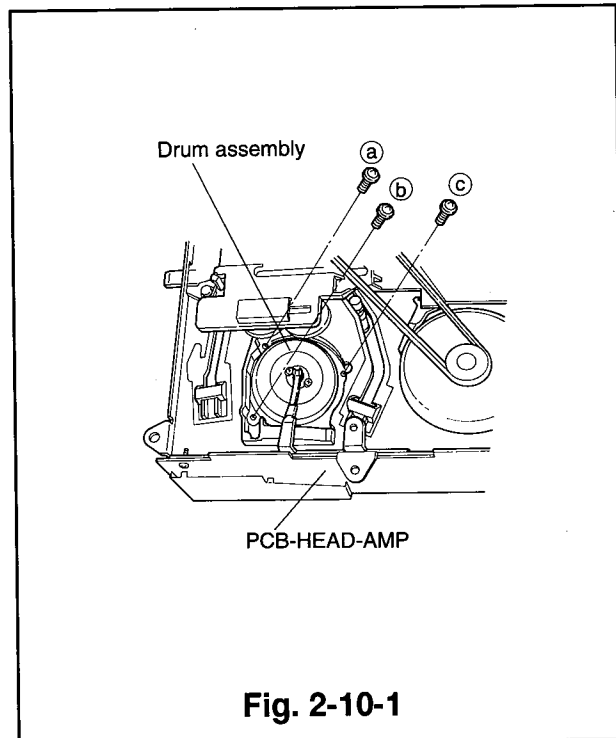

Fig. 2-10-1
- ① Remove the cassette housing. (Refer to Para. 2-1 for the removal method.)
- ② Remove the PCB-HEAD-AMP. (Refer to Para. 2-8 for the removal method.)
- ③ Unscrew the three screws (a), (b) and (c) on the reverse side of the deck and remove the drum assembly. (Refer to Fig. 2-10-1.)
- ④ Slowly raise the drum assembly upward, take care not to touch other parts around it. (Do not touch the tape running surface of the drum with your hand.)
- ① Carefully place the new drum assembly on the main plate of the deck, take care not to touch other parts.
- ② Holding the drum assembly, reverse the deck and secure the drum assembly with the three screws(Ⓐ, Ⓑ and Ⓒ). (Tighten the screws in the order Ⓐ→Ⓑ→Ⓒ and finally tighten again Ⓐ.)(Refer to Fig. 2-10-1.)
- ③ Install the PCB-HEAD-AMP. (Refer to Para. 2-8 for the installation method.)
- ④ Install the cassette housing. (Refer to Para. 2-1 for the installation method.)
- ③ Unscrew the three screws(Ⓐ, Ⓑ and Ⓒ) on the reverse side of the deck and remove the drum assembly. (Refer to Fig. 2-10-1.)
- ④ Slightly raise the drum assembly in the opposite direction of the pins. Remove the pins of the drum assembly and of the rotary transformer from the PCB-HEAD-AMP. Slowly remove the drum assembly, take care not to touch other parts around it.
- ① Carefully place the drum assembly on the main plate, take care not to touch the other parts around it. The pins of the drum assembly and the rotary transformer must enter the holes of the PCB-HEAD-AMP.
- ② Secure the drum assembly with the three screws(Ⓐ, Ⓑ and Ⓒ) on the reverse side of the deck. (Tighten the screws in the order Ⓐ→Ⓑ→Ⓒ and finally tighten Ⓐ again.) (Refer to Fig. 2-10-1.)